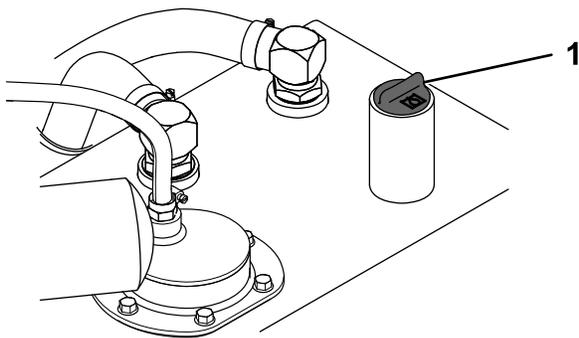

Figure 78
6. Clean the area around the filler neck of the hydraulic tank (Figure 78).